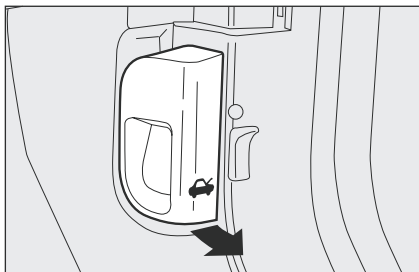

fig. 76
- pull lever **fig. 76** in the direction of the arrow;